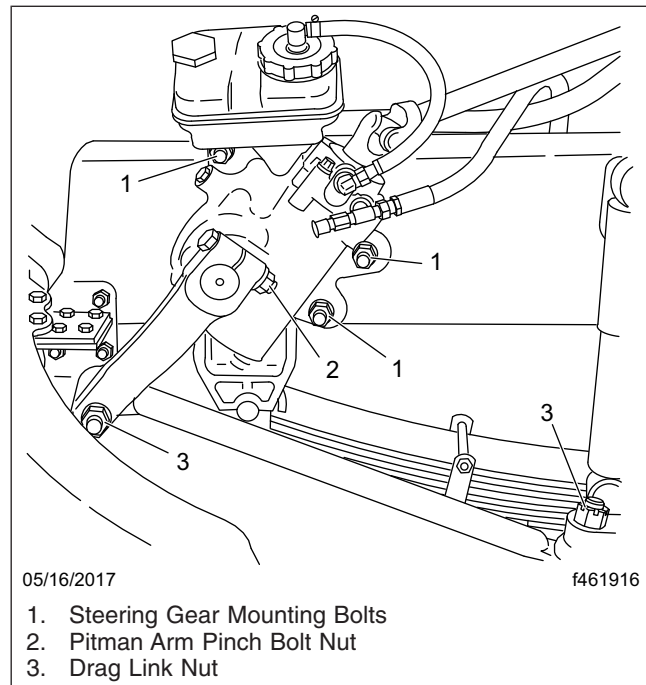

Fig. 20.13, Integral Steering Gear Fasteners
- 6.1 Inspect tie rods, steering arms, and the drag link for signs of looseness (i.e., shiny spots or rust tracks). See **Fig. 20.13**.